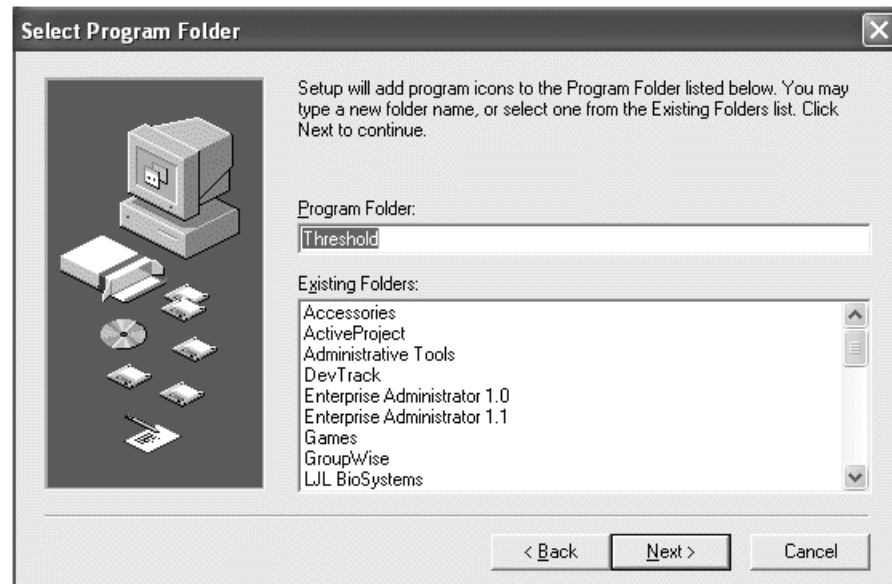

Figure E-5: Select Program Folder Screen
13) The **Select Program Folder** screen opens (Figure E-5)